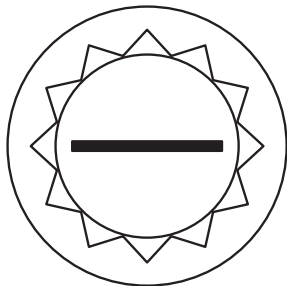

Figure 1
- **NOTICE: Must use new bolts. Do not reuse the old head bolts. (See Figure 1 New Style Head Bolt)**